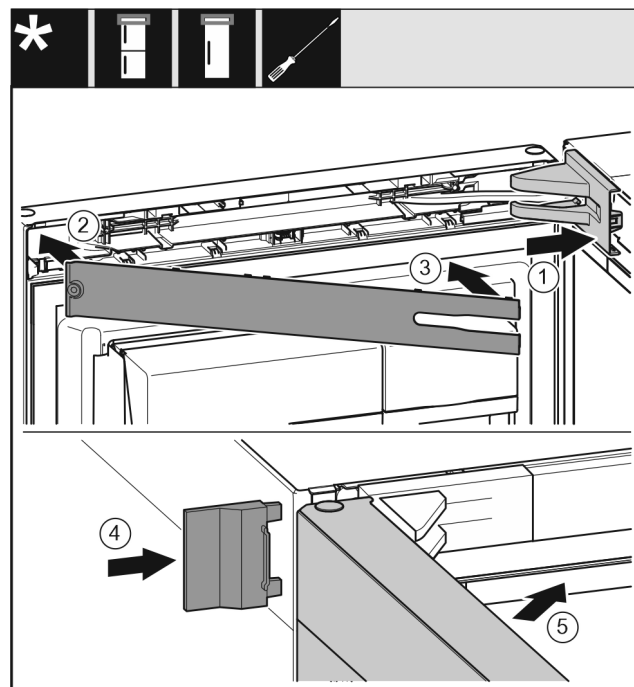

Fig. 57
- ▶ Position the swap bearing block cover Fig. 57 (1) and snap it in. You may need to push it carefully apart.
- ▶ Attach the cover Fig. 57 (2).
- ▶ Swivel in the faceplate Fig. 57 (3) and snap it on.
- ▶ Slide on the outer cover Fig. 57 (4).
- ▶ Close the top door Fig. 57 (5).